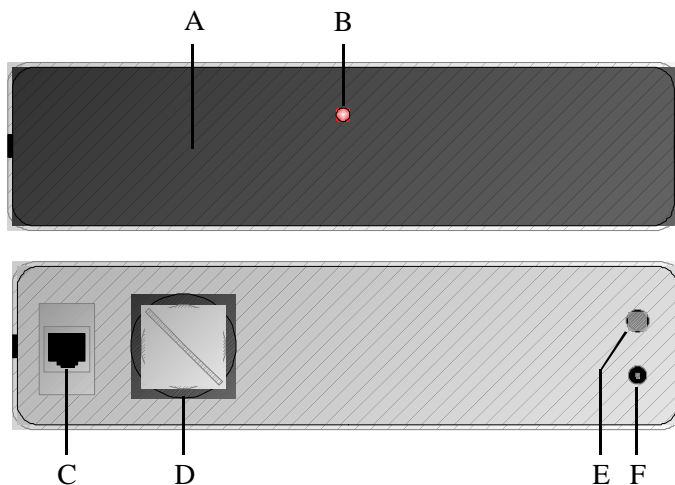

Figure 5.4. The PST front (top) and back (bottom) panel
Figure 5.4 illustrates the front and back panel of the Personal Space Tracker. The panels consist of six parts:
To connect the Personal Space Tracker to the computer, please follow the steps below. Refer to Figure 5.4 for the tracker connections.
3. Connect one end of the RJ-45 Ethernet cable to a free Ethernet port in your computer or Ethernet switch. Connect the other end of the Ethernet cable to the Ethernet port in the Personal Space Tracker (Figure 5.4, **C**).
4. Plug in the power supply of the Personal Space Tracker (Figure 5.4, **F**).
5. Turn on the Personal Space Tracker by shortly pressing the on/off switch (Figure 5.4, **E**). Verify that the power light turns on (Figure 5.4, **B**). Next, verify that the ready light turns on properly. This process can take up to 30 seconds after pressing the power button.
If the Personal Space Tracker is not used for a longer time, it should be turned off. Shortly press the on/off button (Figure 5.4, **E**) to shut down the Personal Space Tracker. It takes a few seconds for the system to turn itself off and the power light to turn off (Figure 5.4, **B**). In case the Personal Space Tracker has entered an erroneous state and the system does not turn off, holding the power button for over 4 seconds turns off the system. However, this is not recommended for normal operation, as the system does not shutdown cleanly and this may result in data corruption of the PSTs internal memory.